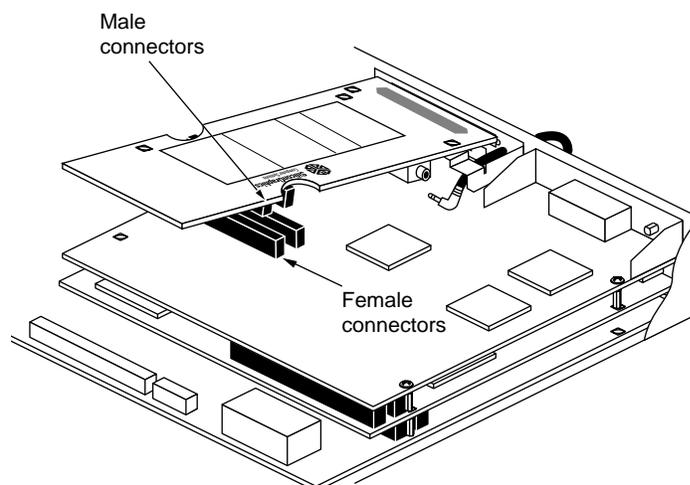

Figure 4-7 Removing the Presenter 1280 XZ 1280 Board
6. Disconnect the Presenter 1280 XZ board from the XZ graphics board by grasping the board firmly and pulling it up, as shown in Figure 4-7.